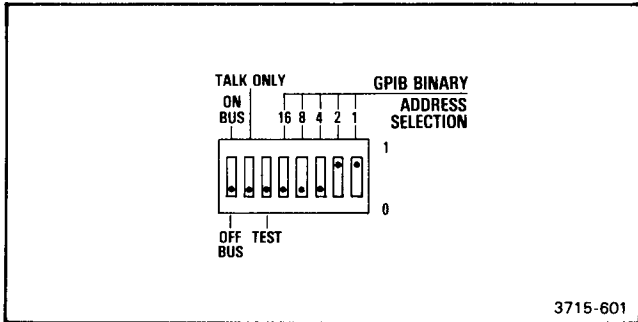

Figure 6-2. GPIB switch Test 3 selection.
- b. Set the rear-panel GPIB switch to Test 3, see Figure 6-2.